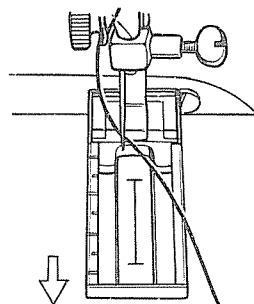

Fig. 1
4. Position the buttonhole opening guideline on about the center of foot (Fig. 1)